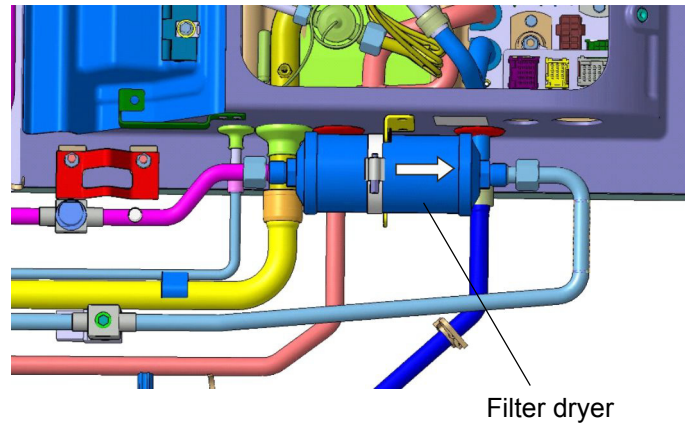

Fig. 903
- Loosen SMA connection (3, Fig. 903) of the refrigerant tube.
- Loosen retaining clamp (2).
- Remove receiver (1).
- Attach SMA connections (3).
- Attach retaining clamp (2).